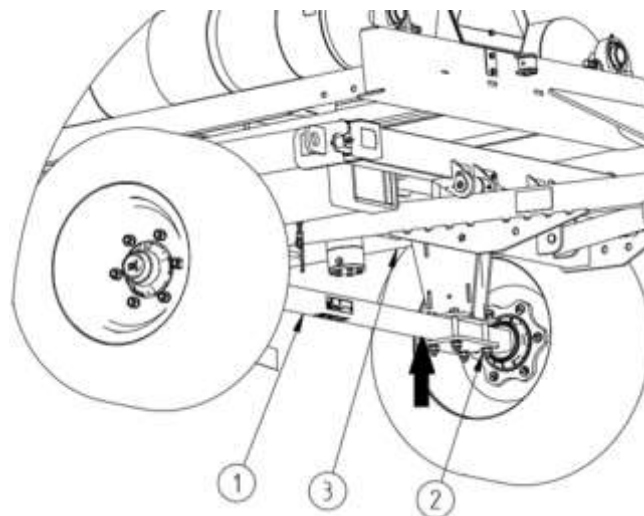

Figure 40 Jacking points
- The jack must be placed next to the bolts (2) which fix the axle (1) to the bottom frame (3), see Figure 40. Recommended jacking points are indicated by an arrow. The jack has to match the bale wrapper's kerb weight.